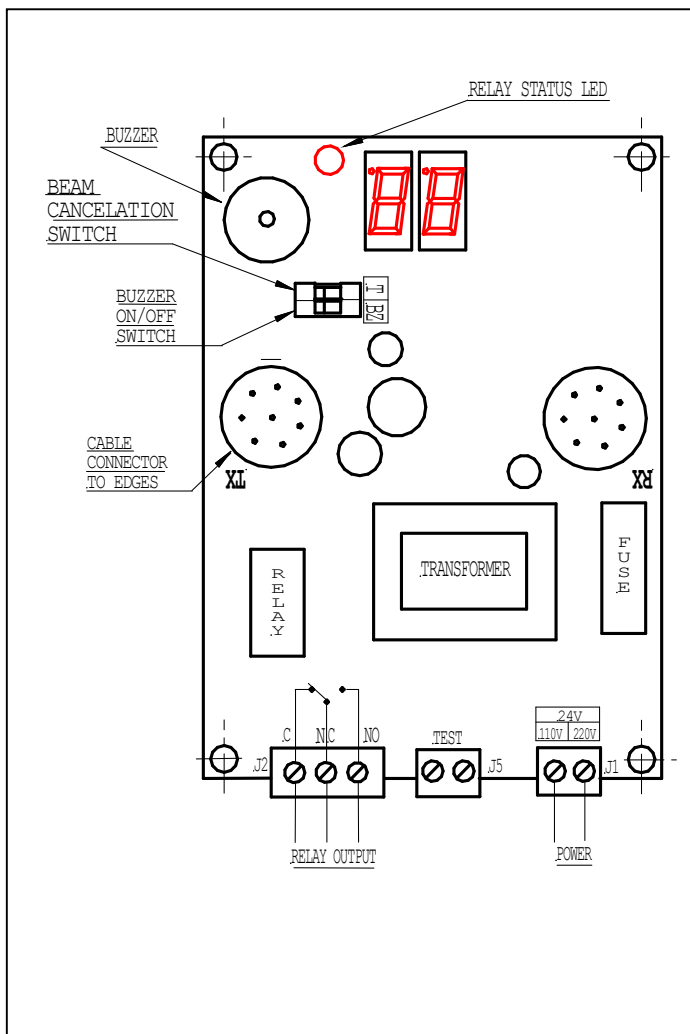
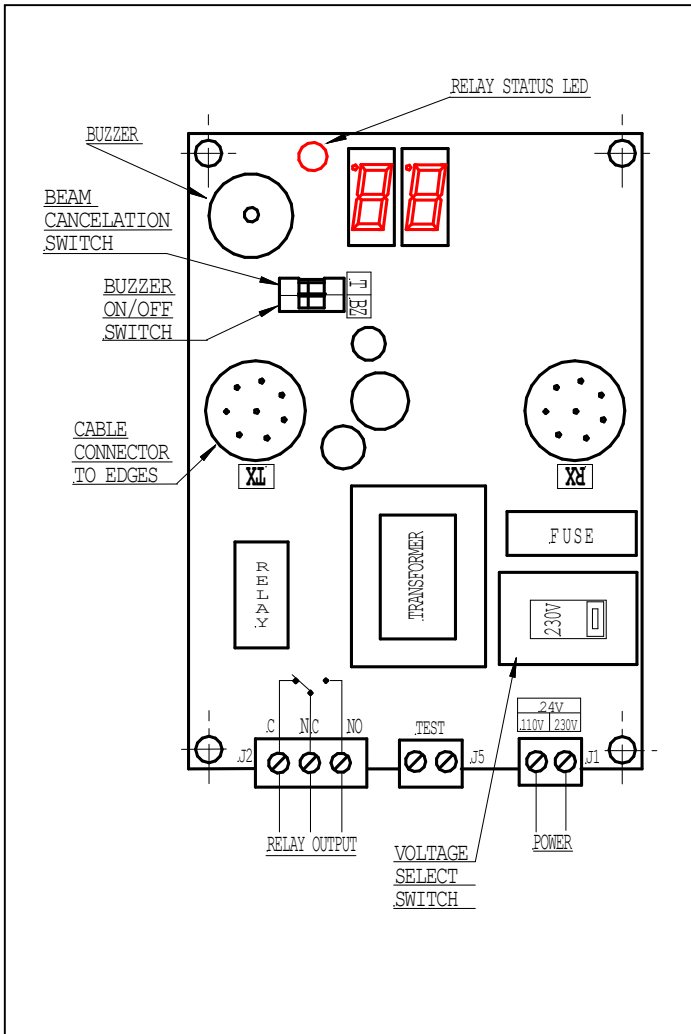

Fig.1
Fig.3
1. Digital readouts (7-segment display) for fault analysis and diagnostics, please refer to (Fig. 1 and Fig. 3) and table of diagnostics.
2. An LED (red) for output relay status monitoring, please refer to (Fig. 1 and Fig3) N.B. When the output relay is energised the **LED will be lit**.
The buzzer can be enabled or disabled by setting the buzzer switch on control box PCB (refer to Fig. 1 and Fig. 3 for location).
Faulty beam cancellation can be enabled or disabled by the beam cancellation switch on the control box PCB (refer to fig. 1 and Fig.3 for location).
This feature is activated through "TEST" input on the control box PCB (refer to fig. 1 and Fig. 3).